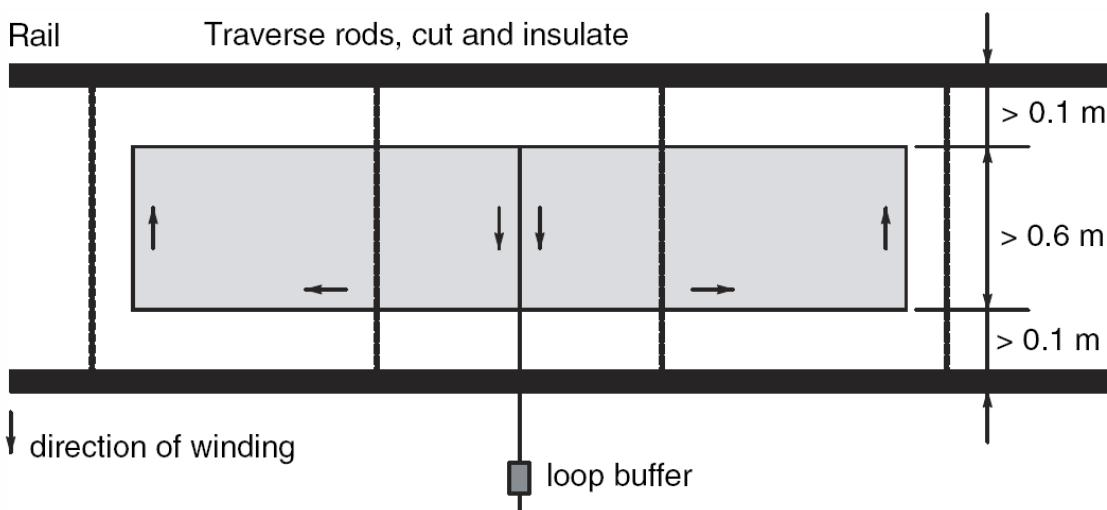

Figure 7 Loop position between rails with transverse rods
The transverse rods near a loop must be must be electrically disconnected from the rail, see Figure 7.
- Traverse rods, see chapter 2 paragraph "Loop position for rail traffic" and Figure 7.